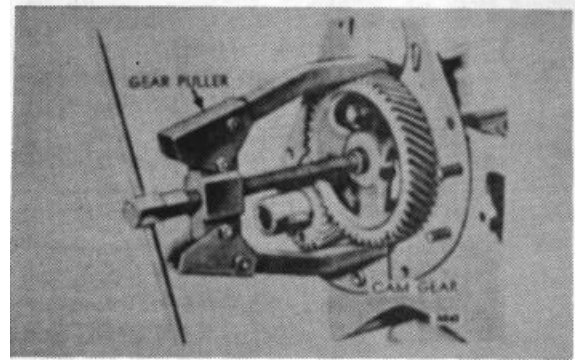

Figure 41.
1. Remove valve cover. Then, using a puller, remove the cam and crank gears. (Figs. 41 and 42)